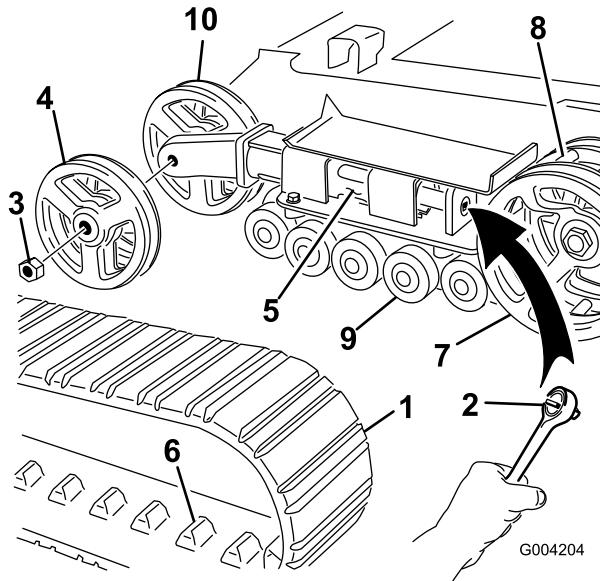

Figure 47
4. Using a 1/2 inch drive socket, release the drive tension by turning the tensioning screw clockwise (Figure 45 and Figure 47).
5. Push the tension wheel toward the rear of the unit to move the tension tube against the frame (Figure 47). (If it does not touch the frame, continue turning the tensioning screw until it does.)
6. Remove the nut securing the outer tension wheel and remove the wheel (Figure 47).
7. Remove the track (Figure 47).
8. Remove the nut securing the inner tension wheel and remove the wheel (Figure 47).
12. Install the inner tension wheel and secure it with the nut removed previously (Figure 47).
14. Install the new track, ensuring that the lugs in the track fit between the spacers in the middle of the drive sprocket (Figure 47).
15. Install the outer tension wheel and secure it with the nut removed previously (Figure 47).